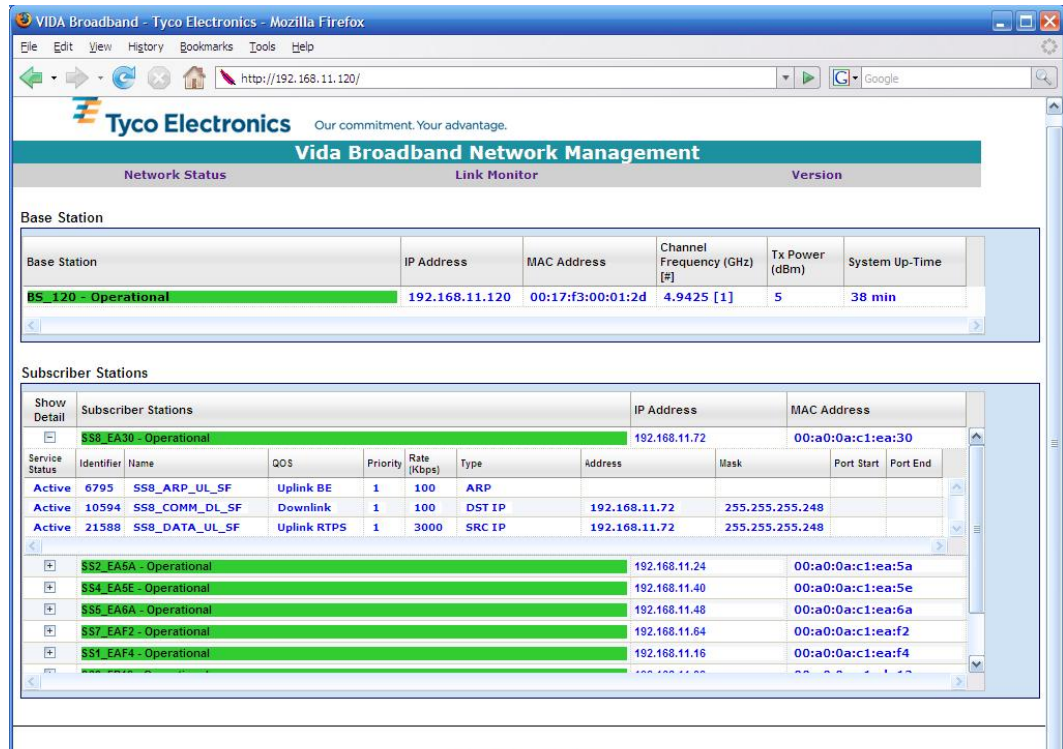

Figure A-2: BS Web Page – Subscriber Station Details
3. To view the details for a particular Subscriber Station, click the **+** symbol to expand the selected SS properties as shown in Figure A-2.